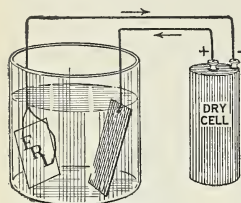

Fig. 282.
*Diagram:* (Fig. 282) Draw the apparatus in use.